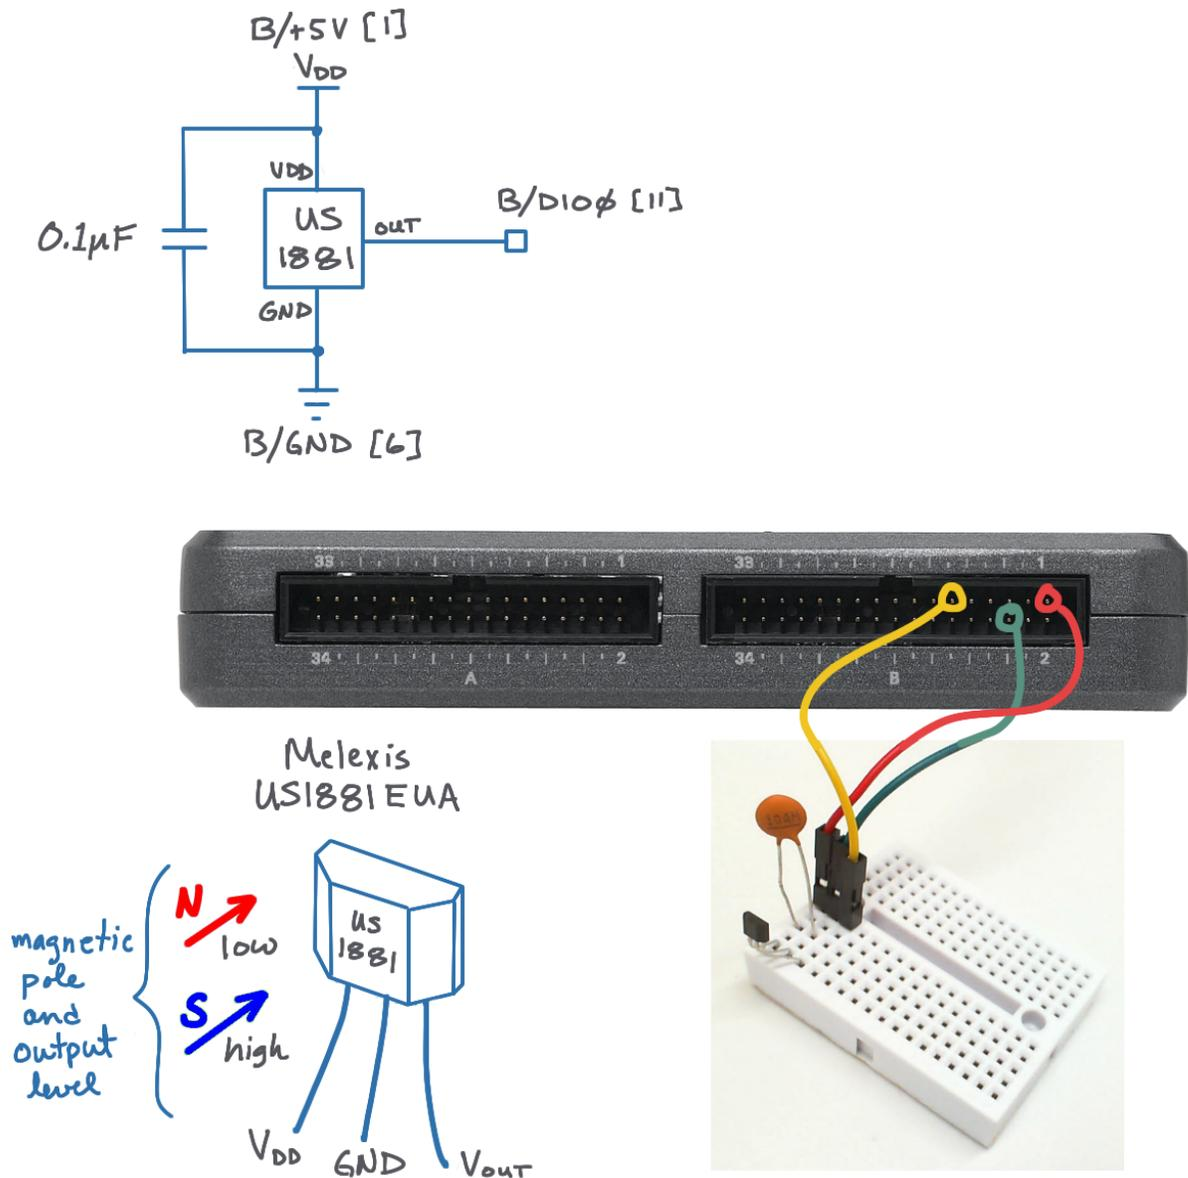

Figure 15.2: Demonstration circuit for Hall effect sensor: schematic diagram, recommended breadboard layout, and connection to NI myRIO MXP Connector B.
**Build the interface circuit:** Refer to the schematic diagram and recommended breadboard layout shown in Figure 15.2 on the next page. The Hall effect sensor interface circuit requires three connections to NI myRIO MXP Connector B: